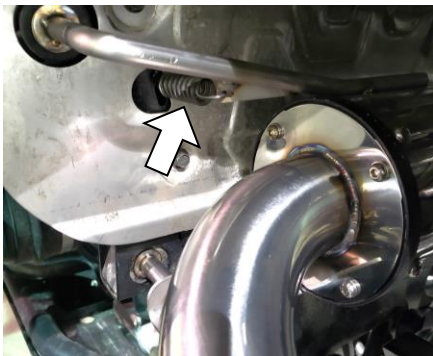

Figure 3
2. Secure the **Muffler Assembly** by reinstalling the previously removed springs to the tabs attached to the top hanger rods. **Refer to Figure 3.**